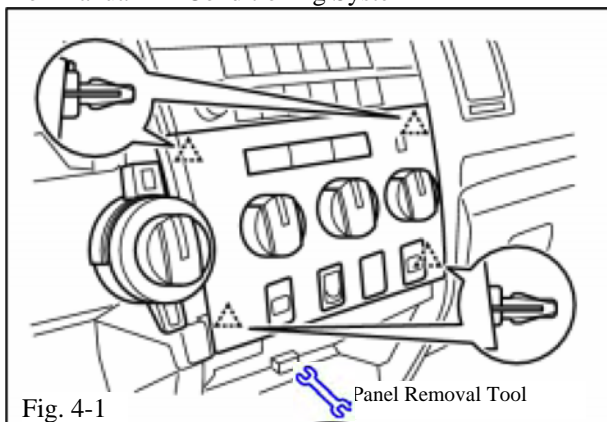

Fig. 4-1
- (a) Remove the integration control panel assembly. (Fig. 4-1 & 4-2)
- (1) Detach the four (4) clips.
- (2) Slightly raise the right side of the instrument cluster finish panel.
- (3) Remove the integration control panel and then disconnect the connectors.